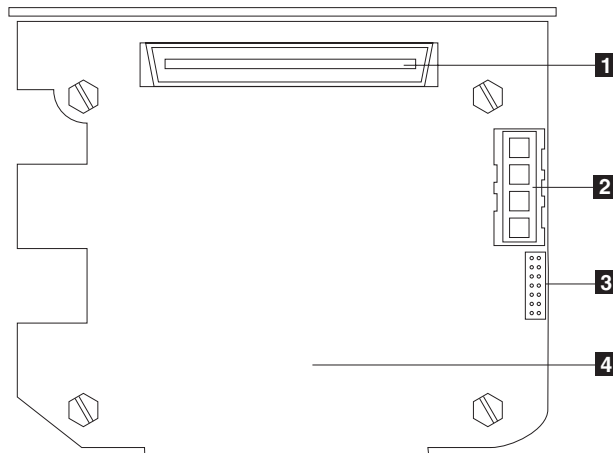

Figure 77. 3-Pack Expansion SCSI backplane
- 2) Connect one end of the cable to the SCSI cable connector on the new 3-Pack Expansion SCSI backplane, which is shown in Figure 77. (This shows the rear connectors on the 3-Pack Expansion SCSI backplane, as viewed from the rear of the engine.)
- 2) Connect one end of the cable to the SCSI cable connector on the new 3-Pack Expansion SCSI backplane, which is shown in Figure 77 on page 142. (This shows the rear connectors on the 3-Pack Expansion SCSI backplane, as viewed from the rear of the engine.)
- 2) Connect this cable to the SCSI power cable connector on the new 3-Pack Expansion backplane (see Figure 77 on page 142 for the location of the connector).